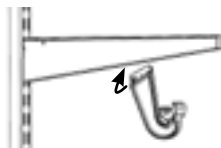

Figure 9
STEP 10: Install closet hooks by inserting into the bottom of the shelf brackets and snapping into place (**Figure 9**).